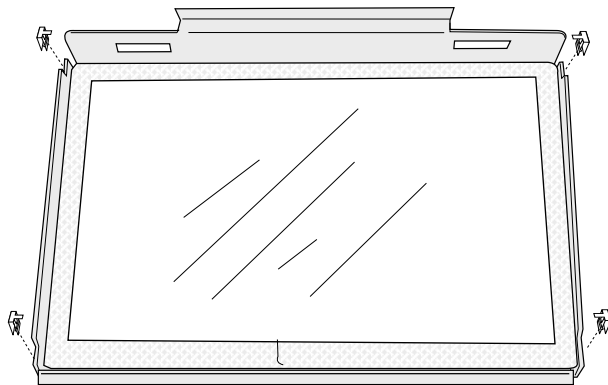

Figure 33. Removal and replacement of the glass panel.
1. Use a small screwdriver to pry the four retainer clips off of the glass frame. See fig. 33.